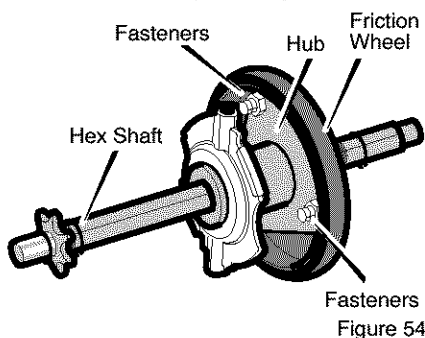

Figure 54
11. Remove the three **fasteners** that hold the **friction wheel** to the **hub** (see Figure 54).